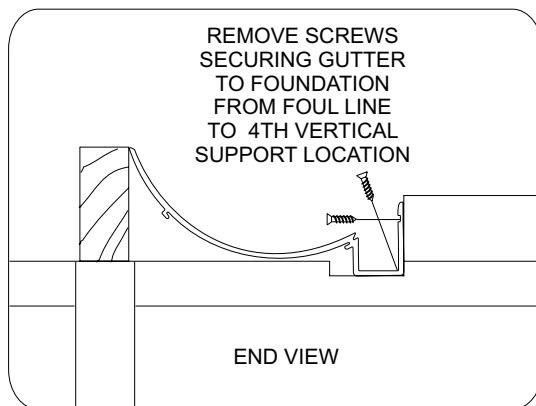

Figure 1
4. Remove all screws securing the first gutter section from the foul line to the fourth vertical support location. Refer to *Figure 1*.